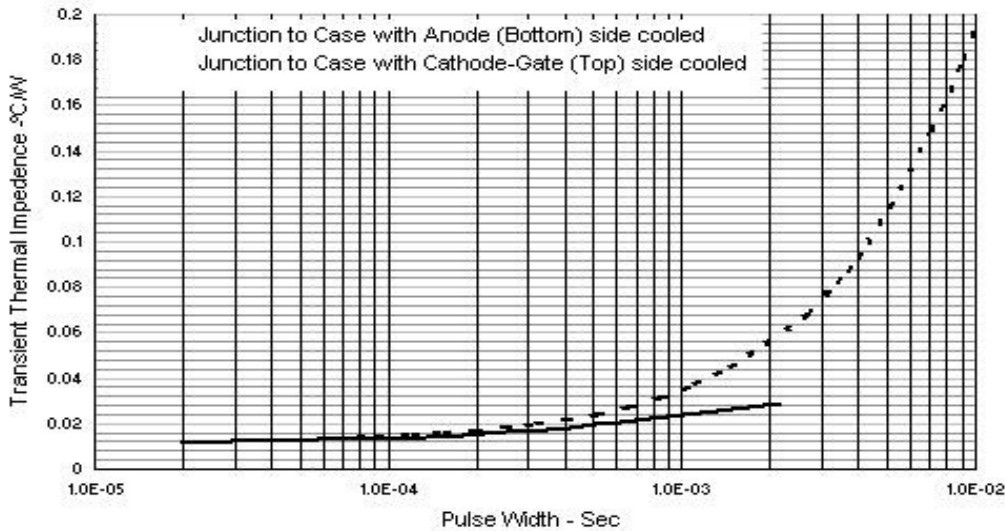

Figure 7. Transient Thermal Impedance Response
1. Case Exterior Assumed to be 0.002" of 63sn/37pb solder applied directly to Anode. (See Figure 7.)
2. Case Exterior Assumed to be 0.002" of 63sn/37pb solder applied directly to cathode bond area of thinPak. (See Figure 7.)